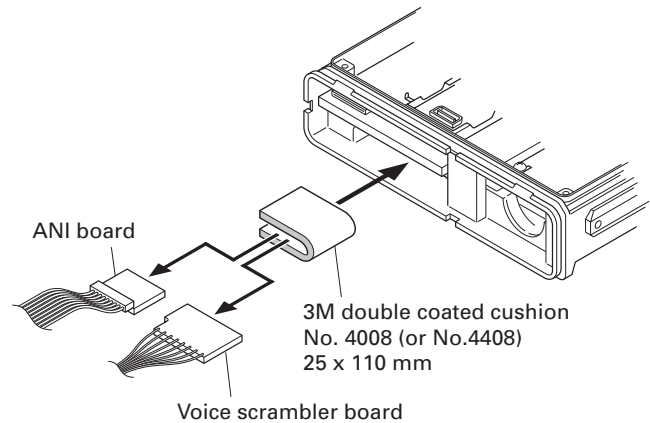

Fig. 8-2
3. Wrap the scrambler board in a cushion and install it on the front of the chassis as shown in Figure 8-2.